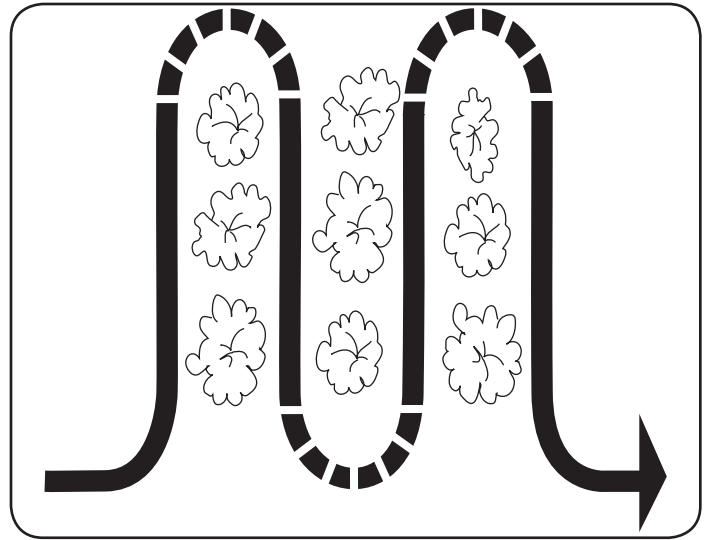

Figure 16
- When cultivating (breaking up the surface soil around the plants to destroy weeds, See Figure 16), adjust the tines to dig only 1” to 2” deep. Using the shallow tilling depth helps prevent injury to the plants whose roots often grow close to the surface. If needed, lift up on the handlebars slightly to prevent the tines from digging too deeply. (Cultivating on a regular basis not only eliminates weeds, it also loosens and aerates the soil for better moisture absorption and faster plant growth.) Watering the garden area a few days prior to tilling will make tilling easier, as will letting the newly worked soil set for a day or two before making a final, deep tilling pass.